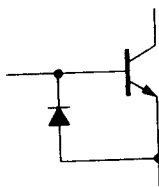

Figure 2.10. A diode prevents base-emitter reverse voltage breakdown.
2. Always remember that the base-emitter reverse breakdown voltage for silicon transistors is small, quite often as little as 6 volts. Input swings large enough to take the transistor out of conduction can easily result in breakdown (with consequent degradation of  $h_{FE}$ ) unless a protective diode is added (Fig. 2.10).